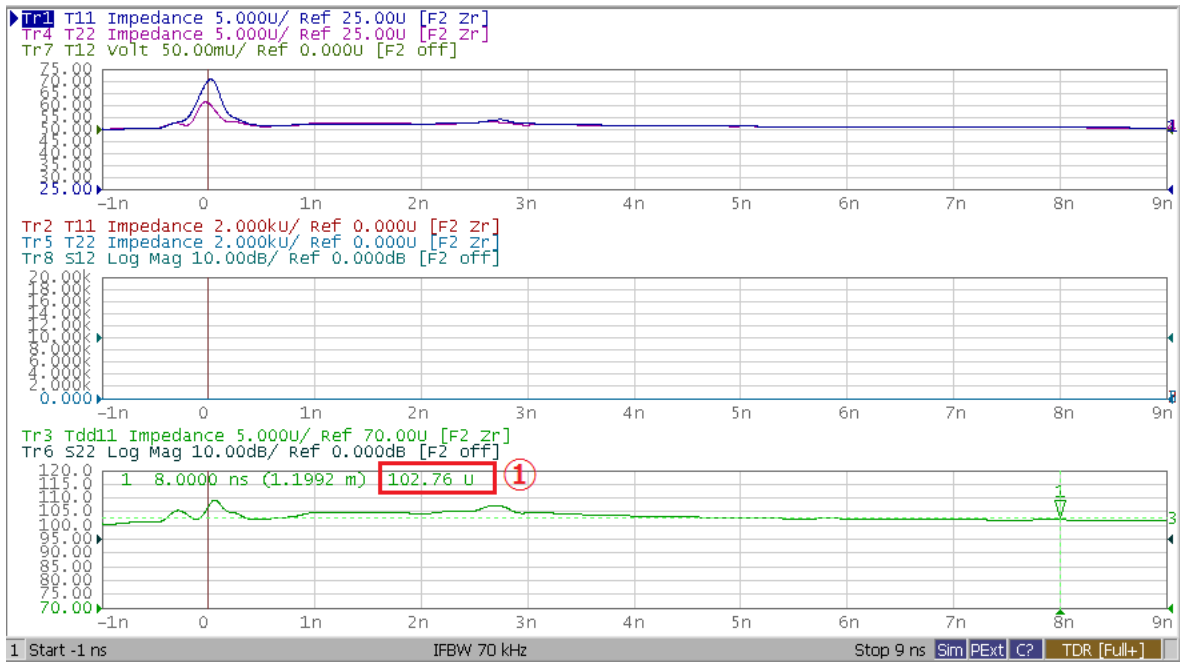

Figure 5-4 Differential Termination Resistance ( $R_{DEF-RX}$ ) Example
6. Read the marker value3 (item 1 in Figure 5-4) as  $R_{\text{DIF-RX}}$  for the RXDP and RXDN